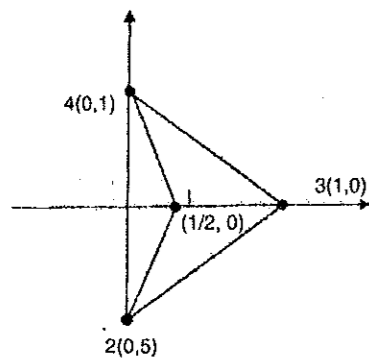

Fig. 15 (b)
- b) i) Explain the concept behind coordinate transformation. Discuss about isoparametric elements with suitable examples. (5)
- ii) For the four noded element with the local numbering as shown in Fig. 15 (b) determine the Jacobian and evaluate its value at the point. (8)